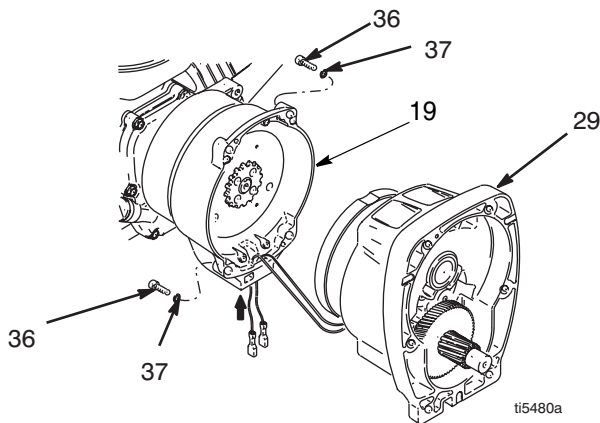
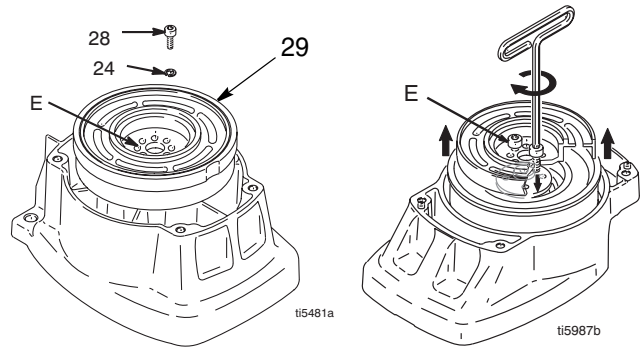

FIG. 4
FIG. 5
2. FIG. 4. Disconnect clutch cable connectors from inside of pressure control.
3. FIG. 4. Remove four screws (36) and pinion assembly (29).
4. FIG. 5. Place pinion assembly (29) on bench with rotor side up.
5. Remove four screws (28) and lock washers (24). Install two screws in threaded holes (E) in rotor. Alternately tighten screws until rotor comes off.
- FIG. 5. Place pinion assembly on bench with rotor side up.
- Apply Loctite® to screws. Install four screws (28) and lock washers (24). Alternately torque screws to 125 in-lb until rotor is secure. Use threaded holes to hold rotor.
- FIG. 4. Install pinion assembly (29) with four screws (36) and washers (37).